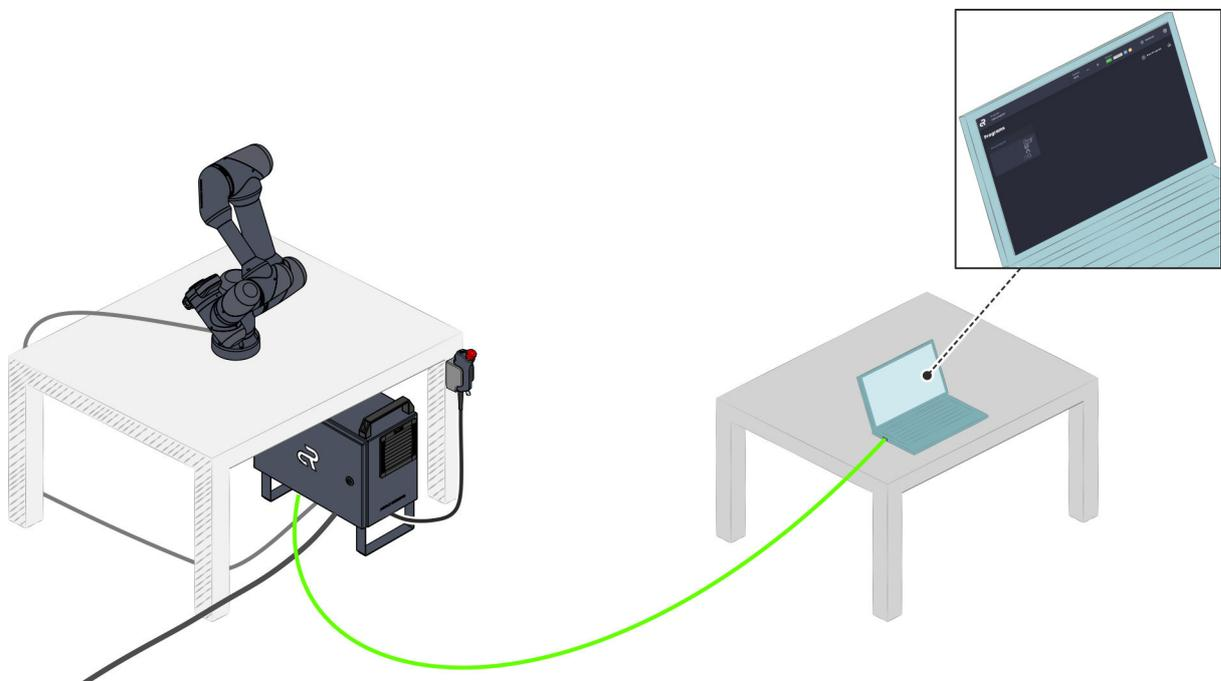

Fig. 58 Accessing the user interface
- ▶ ■ The robot controller's user interface opens **Fig. 58**.